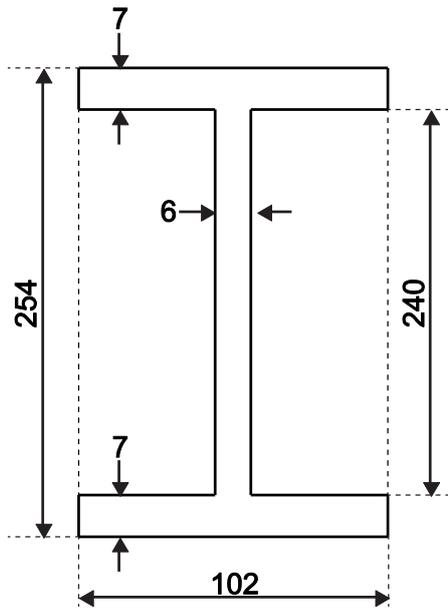

Fig. 4
- 3 (a) Fig. 4 shows the cross-section of a steel beam used in standard structural engineering applications. All dimensions are in millimetres (mm).
- (ii) The beam in Fig. 4 has a length of 12 m. The density of the steel is 8000 kg m^{-3} .